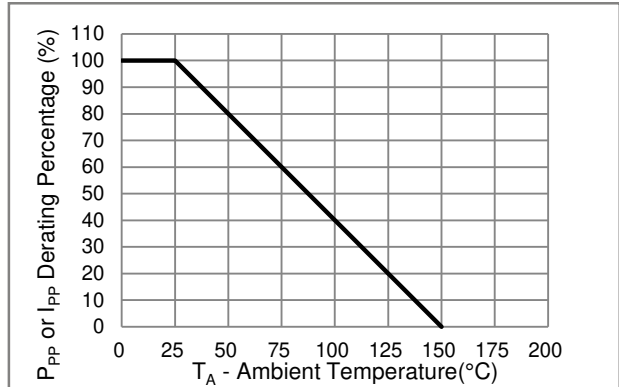
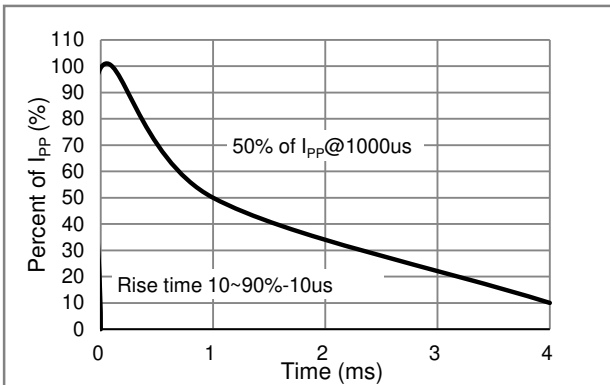

Fig.2 Derating Curve
Fig.3 10/1000us Pulse Waveform
1. Non-repetitive current pulse, per Fig.3 and derated above $T_A = 25^\circ\text{C}$ per Fig. 2.